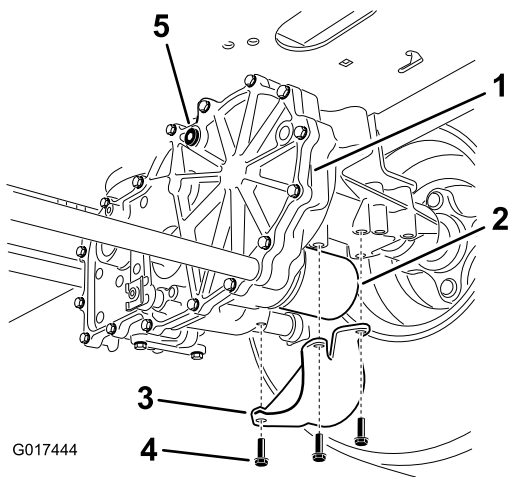

Figure 69
2. Locate the filter and guards on each transaxle-drive system (Figure 69).
3. Remove the 3 screws securing the filter guard and guard (Figure 69).